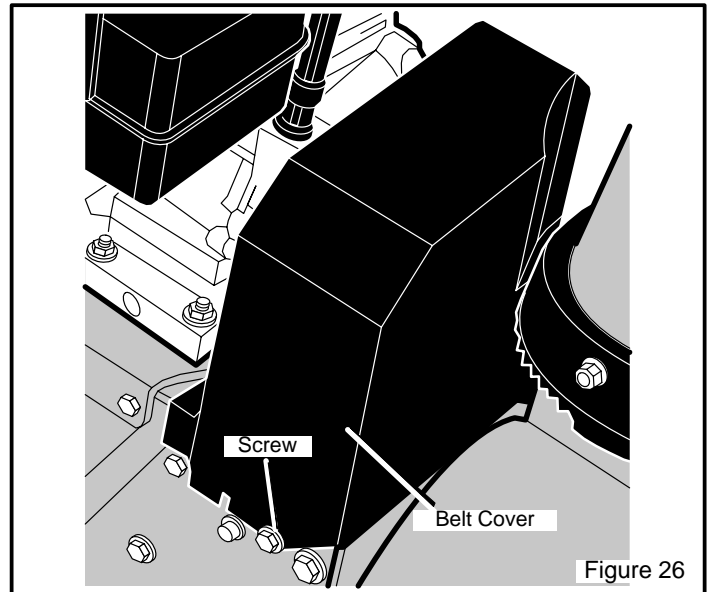

Figure 26
2. Remove **screw** from **belt cover**. Remove **belt cover** (see Figure 26).
4. Remove **screw** from **belt cover**. Remove the **belt cover** (see Figure 26).
11. Install the **belt cover**. Tighten **screw** (See Figure 26).
15. Install the **belt cover**. Tighten **screw** (see Figure 26).